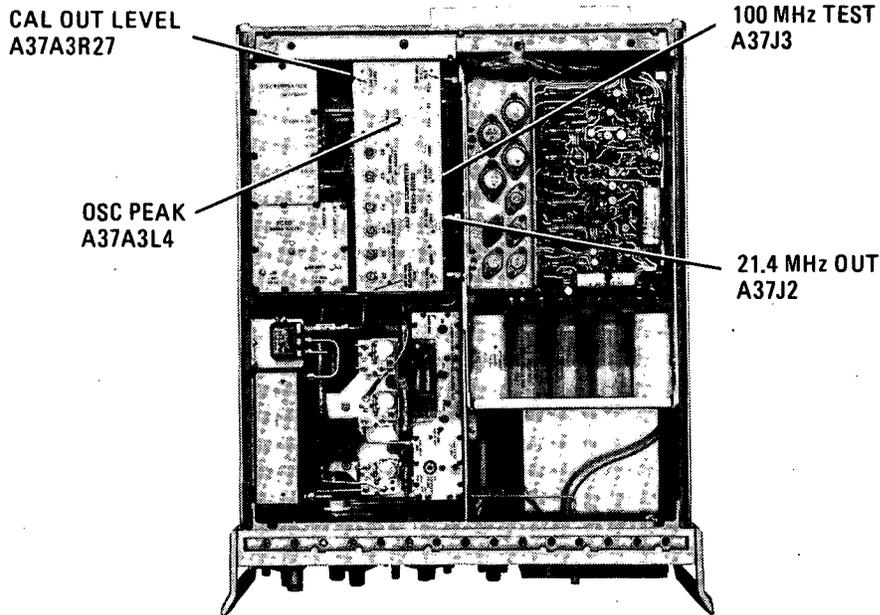

Figure 5-36. Third Converter Adjustment Locations
11. Connect test spectrum analyzer to A37J3 100 MHz TEST (Figure 5-36). Adjust A37A3L4 OSC PEAK for maximum 100 MHz signal level (use non-metallic adjusting tool). Disconnect test spectrum analyzer.